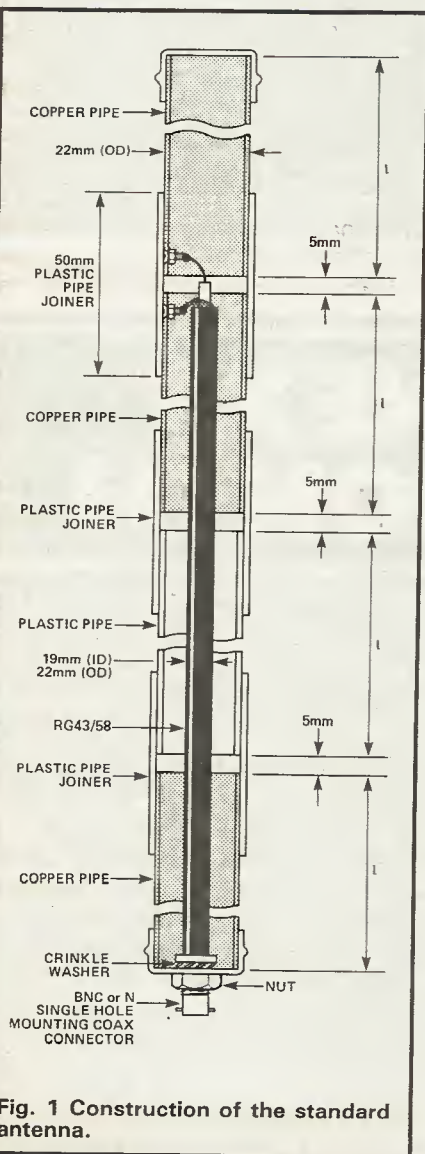

Fig. 1 Construction of the standard antenna.
mounting must be chosen. The 'standard' design as shown in Figure 1 can be clamped just above the coax connector, and then attached to the car roof rack or an existing base-station mast, at least 70cm away from any other mast or antenna.
10. Make a trial assembly of the antenna using all the pipe sections except the top dipole section, as shown in Figures 1 and (if appropriate) 2, feeding the coax through.